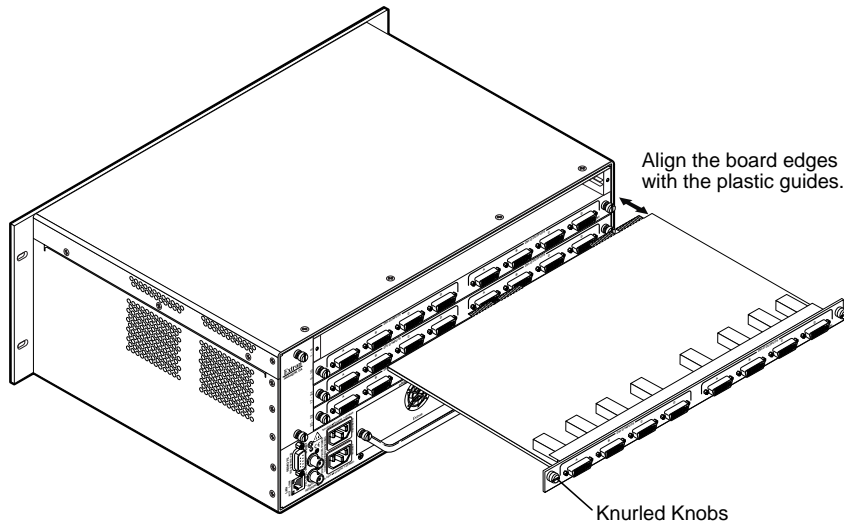

Figure 14. Remove and Install an I/O Board
2. Rotate the left and right knurled knobs to completely loosen the captive screws (see figure 14 on the next page).